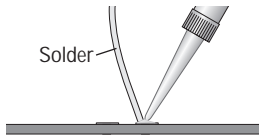

Figure 1.3.
1. With a soldering iron and 60/40 or 63/37 eutectic-type solder, melt just enough solder onto one pad to create a small mound (Figure 1.3).